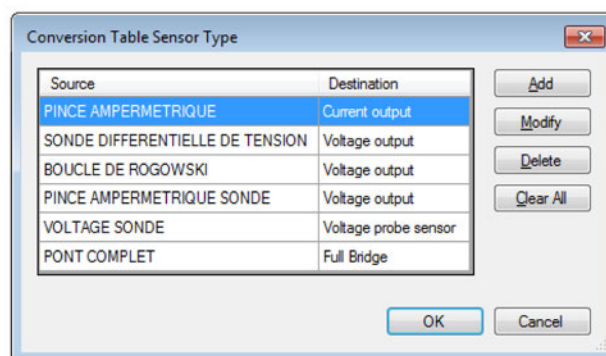

Figure 3.7: Conversion Table Sensor Type dialog
Since you will have a custom sensor type in most cases, you need to name a conversion table to map your custom sensor type to a sensor type which Perception supports. You can perform this step with the **Conversion Table Sensor Type** dialog (see Figure 3.7).
In the table shown in Figure 3.7, the “Voltage output” sensor type is created when the source sensor type is “BOUCLE DE ROGOWSKI”. You define which column is used as the Perception **Sensor Type** column in the custom sensor table. Map all the possible values of this column to a specific Perception Sensor Type. To do this, you can add new links in the **Conversion Table Sensor Type** dialog. For more detailed information about Perception Sensor types, see "Detailed Sensor Information" on page 27.
- 2 Click the **Add** button in the **Conversion Table Sensor Type** dialog (see Figure 3.7).